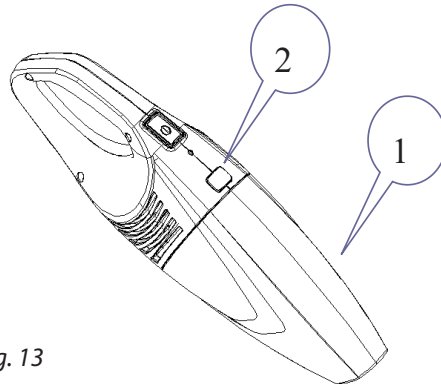

Fig. 13
1. Detach the accessory on the sub-unit, and then press the release button (2) of dust cup (1) to make it be separated from the sub-unit (see Fig. 13).